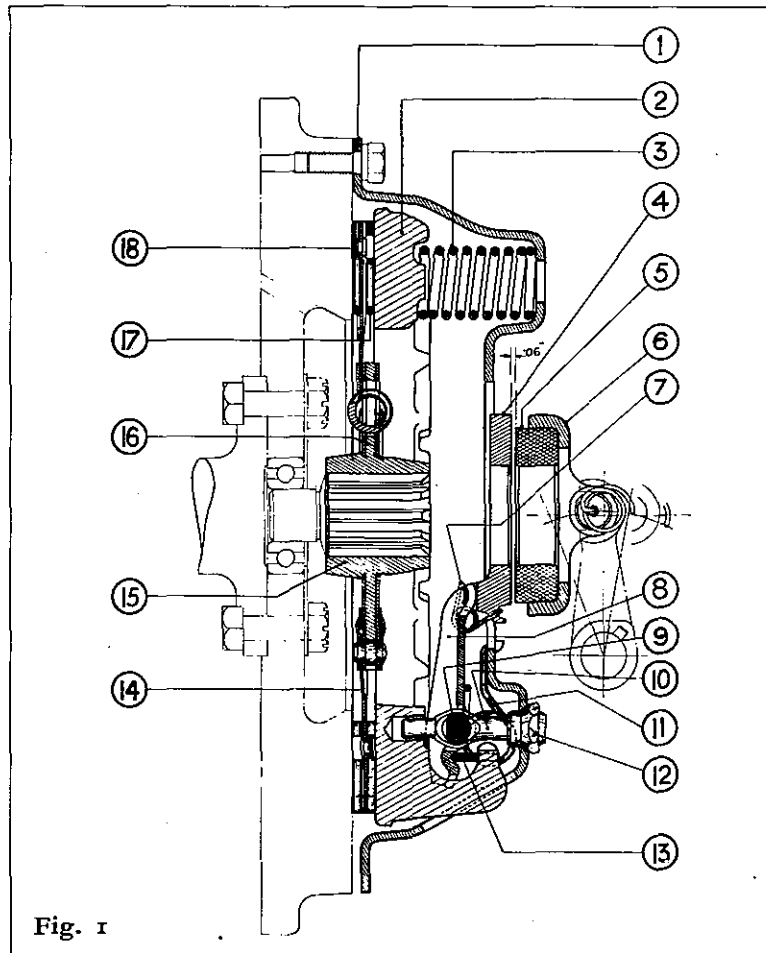

Fig. 1
## GENERAL DESCRIPTION (See Fig. 1)
*Note:* The adjustment nuts (12), Fig. 1, are correctly set and locked when the clutch is assembled and should not be altered unless the clutch has been dismantled and new parts fitted. Interference with this
### DISMANTLING (see Fig. 1)
### ASSEMBLING (see Fig. 1)
2. Place the pressure plate on the blocks under the press and arrange the thrust springs (3) in a vertical position on the plate, seating them on the bosses provided (Figs. 1 and 2).
3. Lay the cover over the assembled parts, ensuring that the anti-rattle springs (11) are in position and that the tops of the springs are directly under the seats in the cover; also that the machined portions of the pressure plate lugs are under the slots in the cover through which they have to pass. Care should be taken that the parts marked before dismantling are in their correct relative positions.
5. Screw the adjusting nuts (12) on to the eyebolts (10) and secure by staking. Operate the clutch a few times by means of the ram to ensure that the working parts have settled into their correct positions. Connect the release lever plate (4) to the release levers (8) by means of the retainer springs (7).